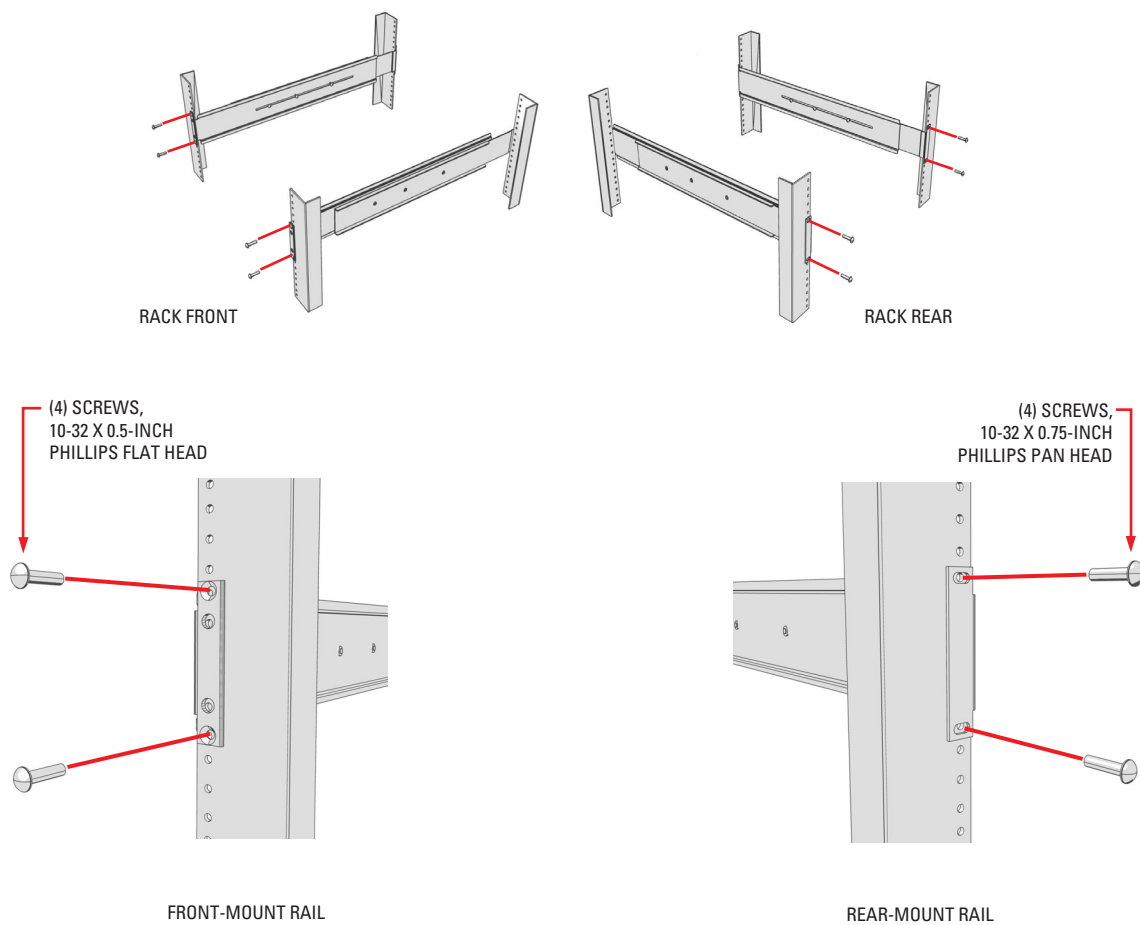

**Figure 7. Inserting Cage Nuts**
5. If installing the unit into a square-hole rack: Insert 10 cage nuts (supplied) into the square-hole rack as shown in Figure 7.